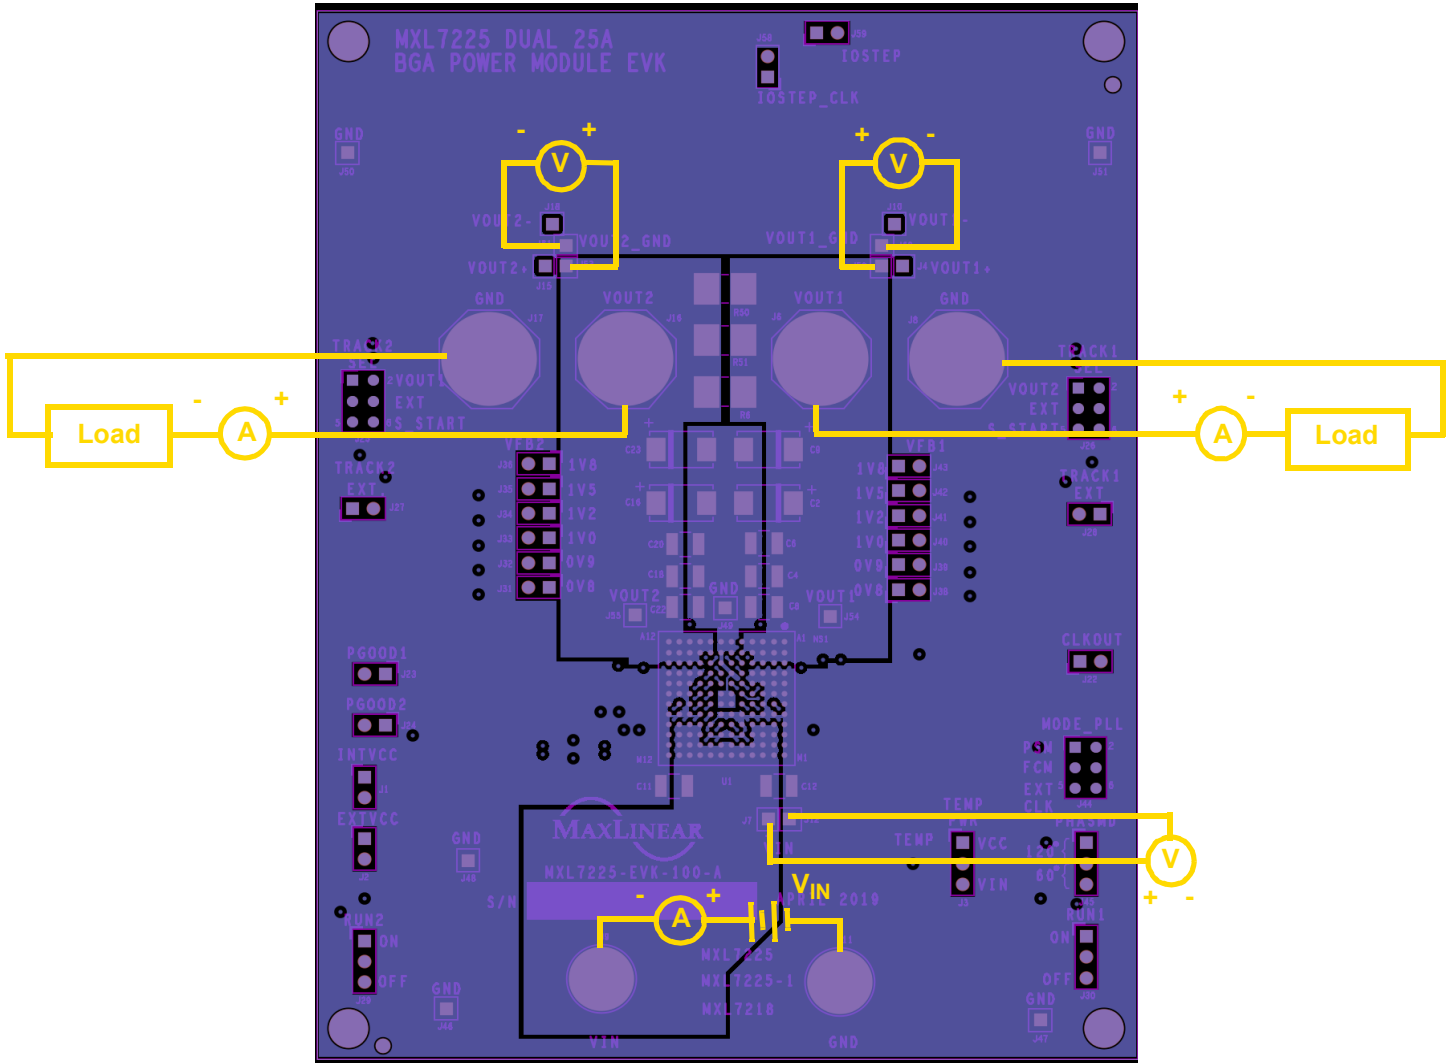

Figure 1: Monitoring V_{IN} and V_{OUT}
2. Connect a turned-off power supply that is within a V_{IN} specification of 4.5V to 15V, (12V typical) to VIN and GND with short, thick leads. Use test pins VIN+ and VIN- to monitor VIN and GND respectively. See locations in Figure 1.
3. For the channel 1 output, connect an electronic load initially set to 0A, that will be no more than the above maximum I_{OUT} (18A), to VOUT1 and GND with short / thick leads. Use test pins VOUT1 (J52) and VOUT1_GND (J60) to monitor VOUT1 and GND respectively. See locations in Figure 1.
4. For the channel 2 output, connect an electronic load initially set to 0A, that will be no more than the above maximum I_{OUT} (18A), to VOUT2 and GND with short, thick leads. Use test pins VOUT2 (J53) and VOUT2_GND (J61) to monitor VOUT2 and GND respectively. See locations in Figure 1.